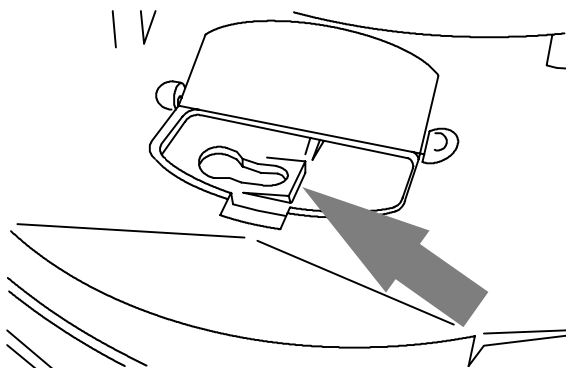

FIG. 10
4. Open access cover on front of scrub head. Turn drive plate until pin slot is visible (Figure 10).